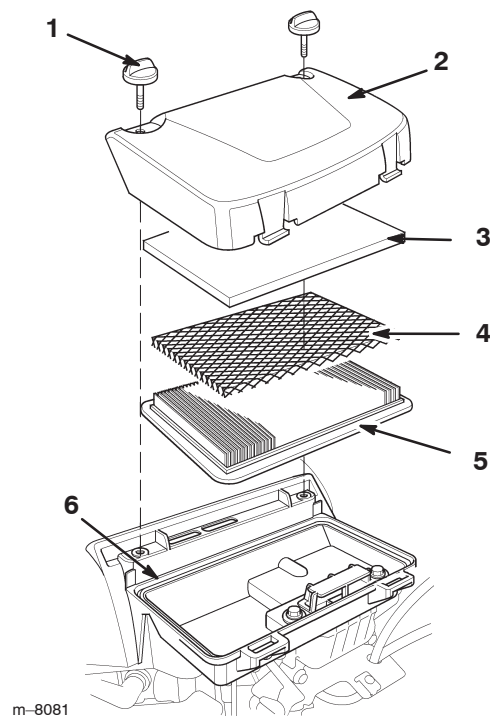

Figure 19
4. Remove the air cleaner cover knobs and the air cleaner cover. Be careful to prevent debris from falling into the air cleaner base opening (Fig. 19).
5. Remove the foam filter element (Fig. 19).
6. Remove the paper filter element from the grid (Fig. 19).
1. Install the grid over the paper element and install the assembly into the air cleaner base (Fig. 19).
2. Install the foam element over the grid (Fig. 19). The grid must be placed between the foam element and paper element to prevent oil from contaminating the paper element.
3. Install the air cleaner cover over the filter. Use the cover knobs to secure the cover in place (Fig. 19).